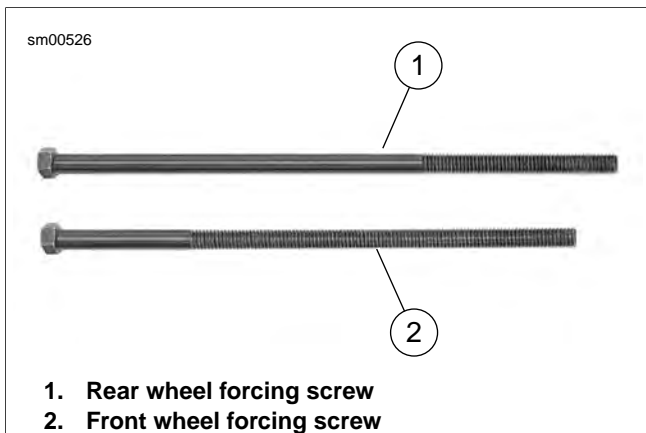

Figure 2-21. Forcing Screws Used for Front and Rear Wheel Bearing Installation
- See Figure 2-21. When installing rear wheel bearings it is necessary to use the FORCING SCREW (1) from the STEERING HEAD BEARING RACE INSTALLER (Part No. HD-39302).